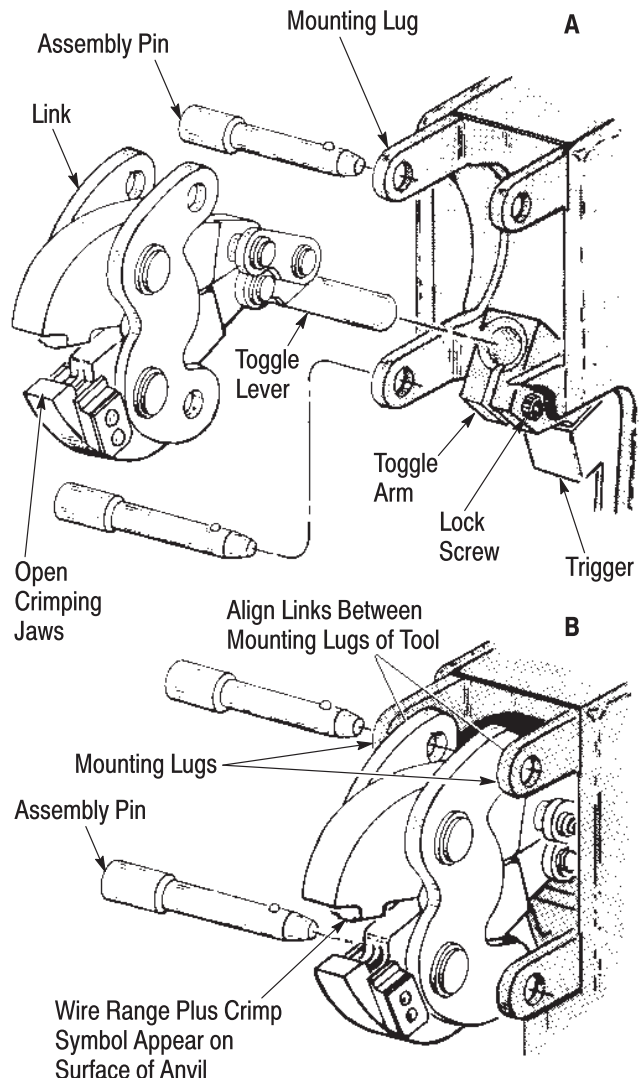

Figure 1
1. Disconnect tool from air supply. Select the correct crimping head for the wire size being used. Wire range and the insulation piercing crimp symbol (▲) appear on one jaw as shown in Figure 1.